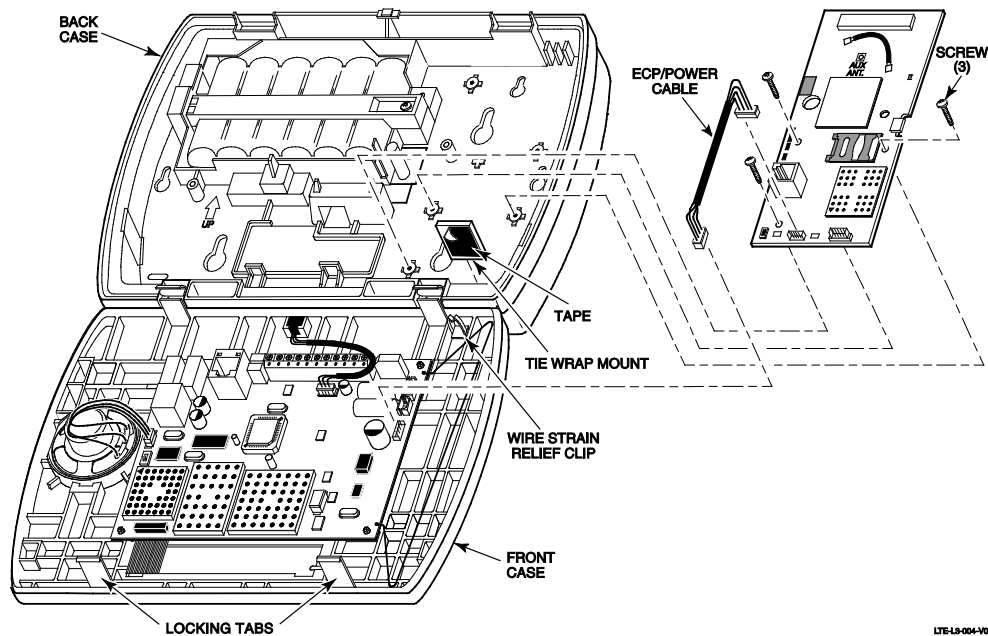

Figure 3 – Installing the Communicator Module
2. Release the control's front case assembly from the rear case by depressing the two locking tabs at the top of the unit with the blade of a medium size screwdriver (refer to Figure 3).
5. Remove the backing from the tape on the provided tie wrap mount. Install the tie wrap mount in the lower right corner of the back case as shown on Figure 3.